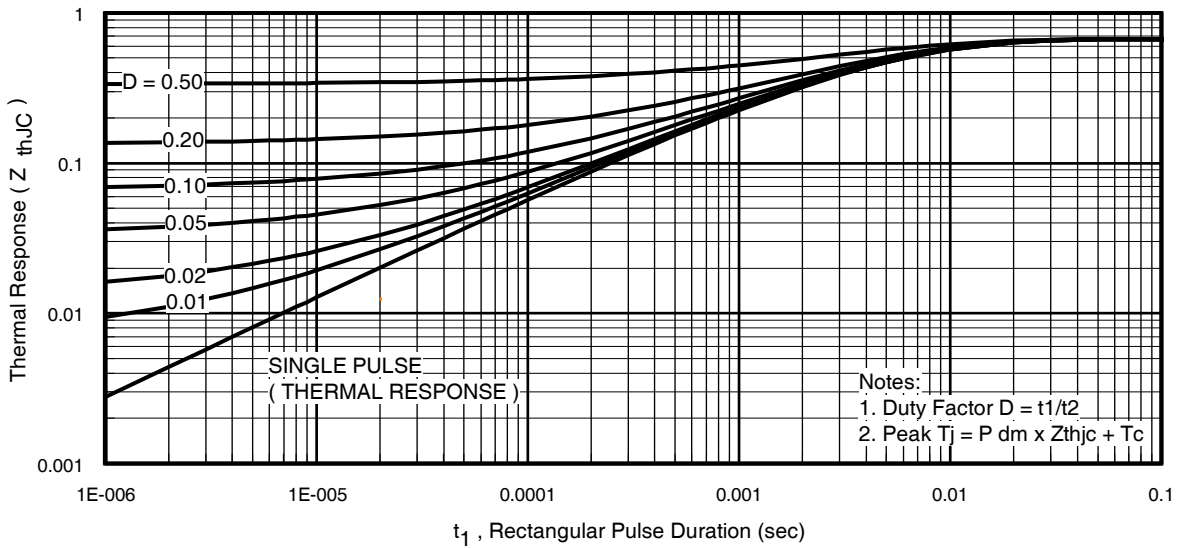

Fig 11. Maximum Effective Transient Thermal Impedance, Junction-to-Case
- ① Repetitive rating; pulse width limited by max. junction temperature. (See fig. 11).
- ② Limited by T_{Jmax} , starting $T_J = 25^\circ\text{C}$, $L = 0.11\text{mH}$
$Z_{thJC}(D, t_{av})$ = Transient thermal resistance, see figure 11)